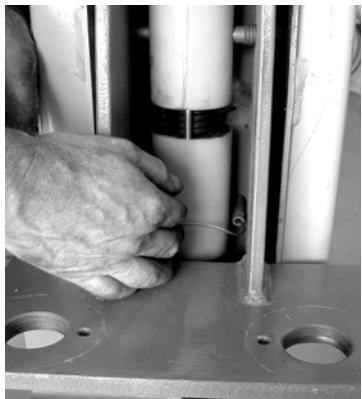

Fig.19
1. Fit one of the two clamps to one end of the cable, and insert the other end into the tube at the lower part of the drive post carriage (Fig.19).